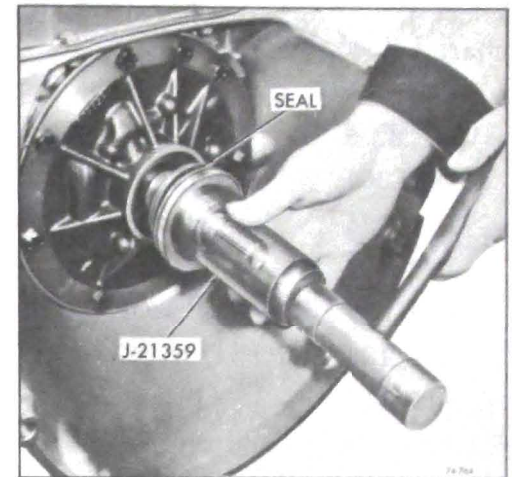

Figure 76-764
22. If necessary, install a new front seal, coat the outside diameter with a good sealer and using Tool J-21359, drive the seal in place. See Figure 76-764.